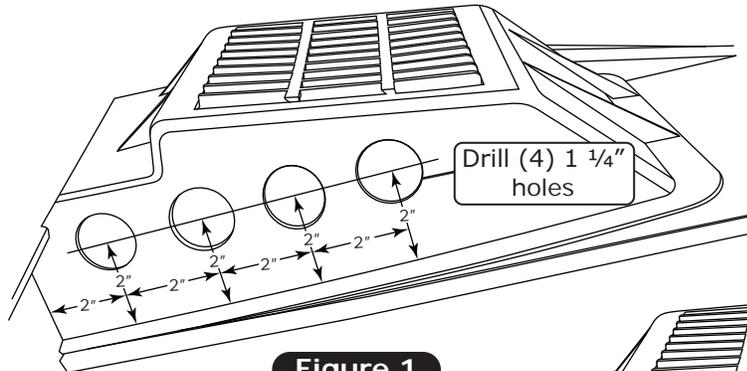

Figure 1
1. Drill (4) 1 1/4" holes into the airbox (See Figure 1, below).